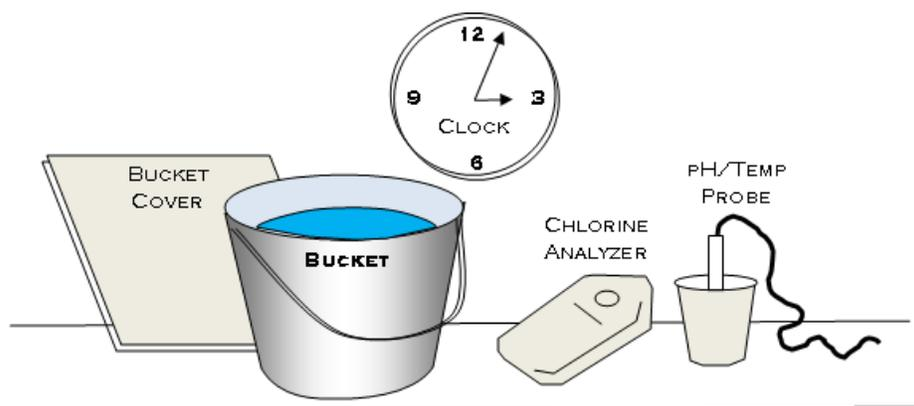

Figure 8. Equipment for a breakpoint curve special study (the same as for a 'Water Age Hold Study').
- Figure 8, below, shows what you need for a breakpoint curve special study.